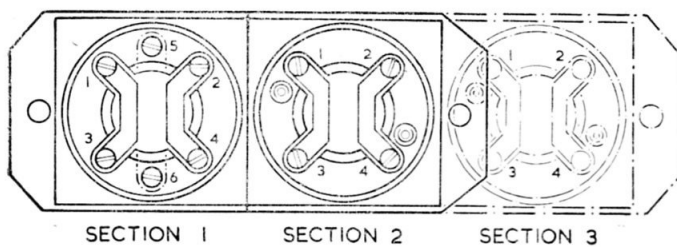

Fig. 3. Terminal arrangement
3. The terminal arrangement is shown in fig. 3, for either two or three-unit switches. Terminals 5 and 6 appear only on sections incorporating the locking mechanism. Each switch is fitted with a synthetic rubber grommet, the tip of the sleeves being cut off as required on installation. Lock sections may be fitted with a mu-metal shield to reduce compass interference.